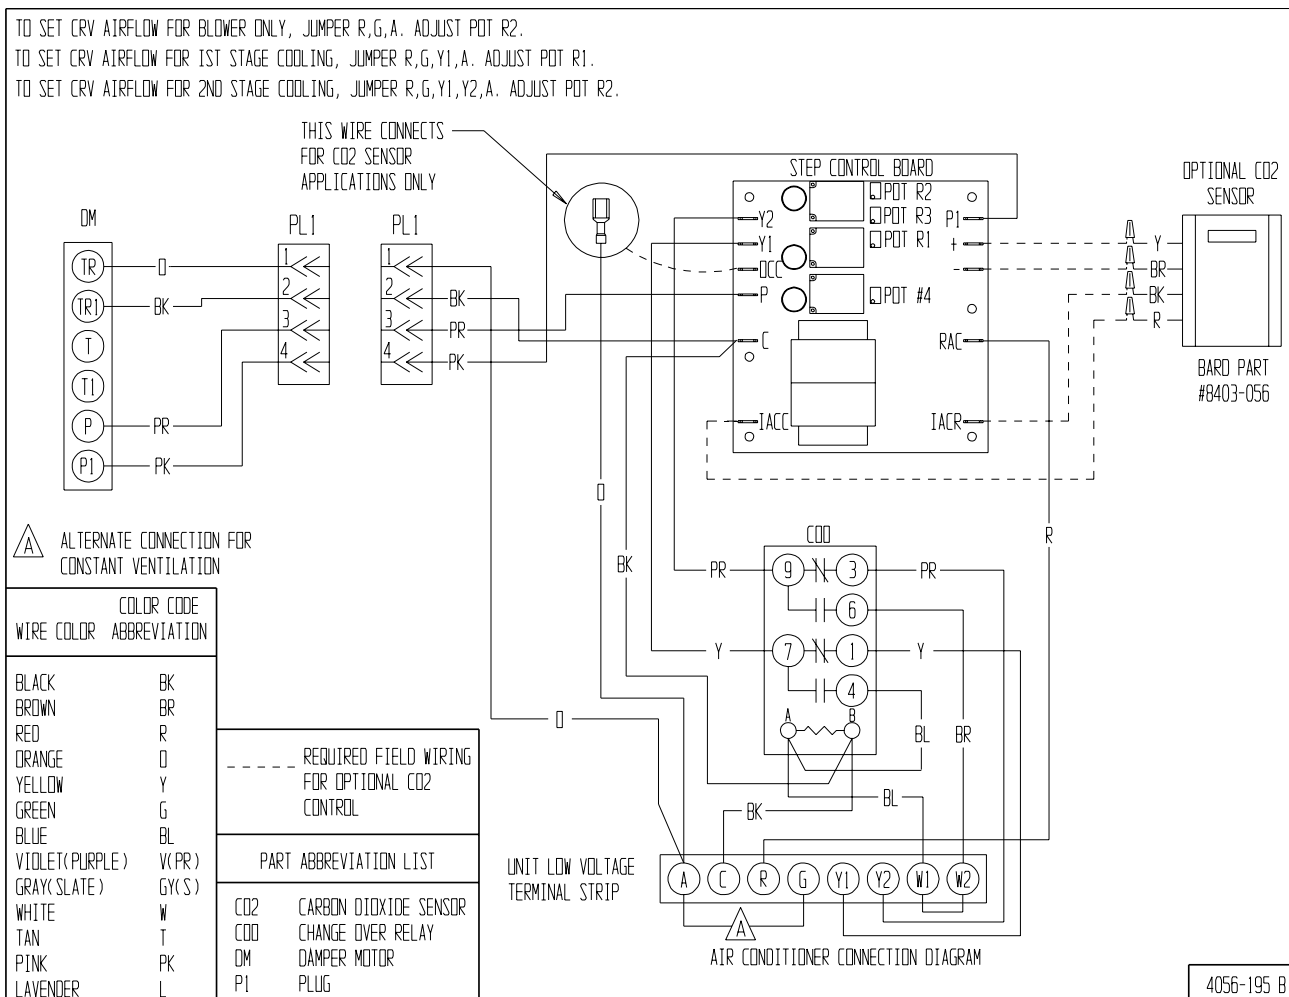

**FIGURE 3
7. Install loose piece wire harness plug into filter tray & route wires into low voltage box. (See Figure 3.)